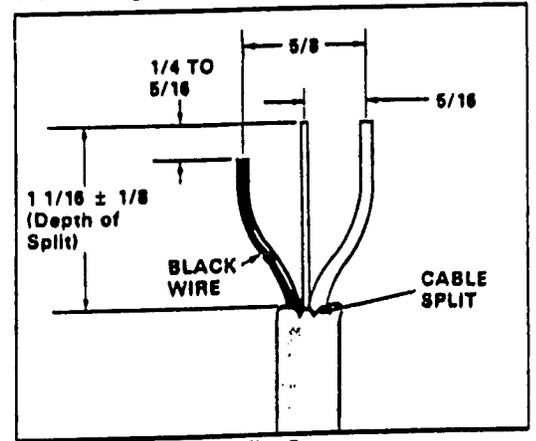

Fig. 2
1. Using the cutting blade, split the cable sheathing to the depth shown in Figure 2.
2. Remove the sheathing back to the cable split as indicated in Figure 2.
3. Spread and form the wires to the configuration shown in Figure 2.
4. Cut the BLACK wire to the length shown in Figure 2.